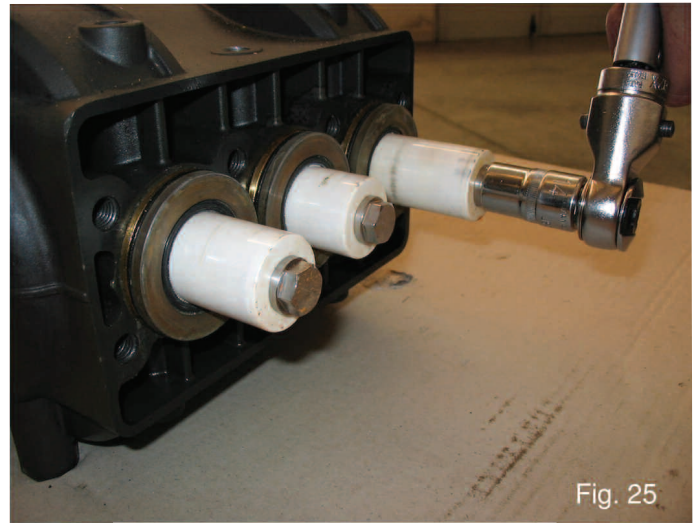

Fig. 25
A) Loosen and remove the plunger screw (1, Fig. 25).